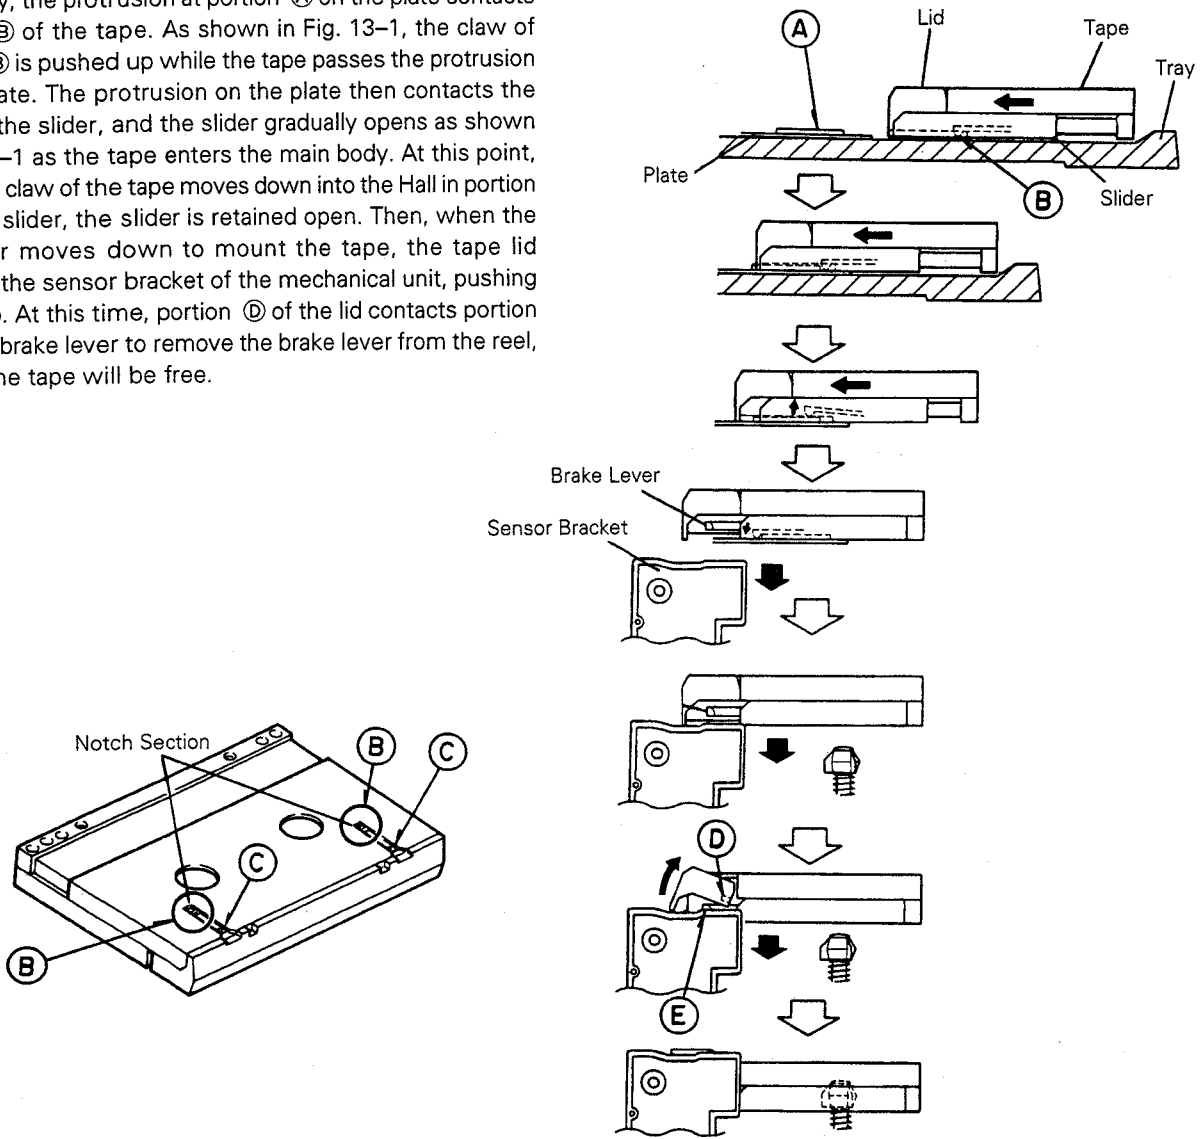

Fig. 13-1 Tape Motion
When the cassette tape placed on the tray is slid into the main body, the protrusion at portion ① on the plate contacts portion ② of the tape. As shown in Fig. 13-1, the claw of portion ③ is pushed up while the tape passes the protrusion on the plate. The protrusion on the plate then contacts the notch of the slider, and the slider gradually opens as shown in Fig. 13-1 as the tape enters the main body. At this point, when the claw of the tape moves down into the Hall in portion ④ of the slider, the slider is retained open. Then, when the container moves down to mount the tape, the tape lid contacts the sensor bracket of the mechanical unit, pushing the lid up. At this time, portion ⑤ of the lid contacts portion ⑥ of the brake lever to remove the brake lever from the reel, so that the tape will be free.